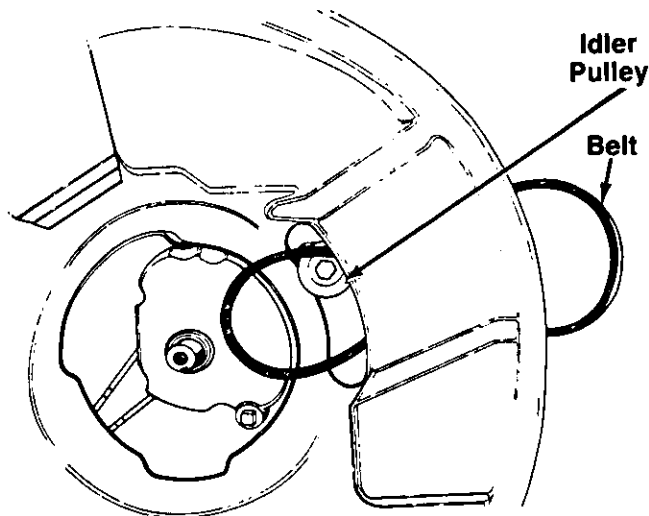

FIGURE 31.
- A. Push the idler pulley up out of the way as shown in figure 31.
- B. Slide the belt in from the rear of the deck, and place it around the transmission pulley. See figure 31.